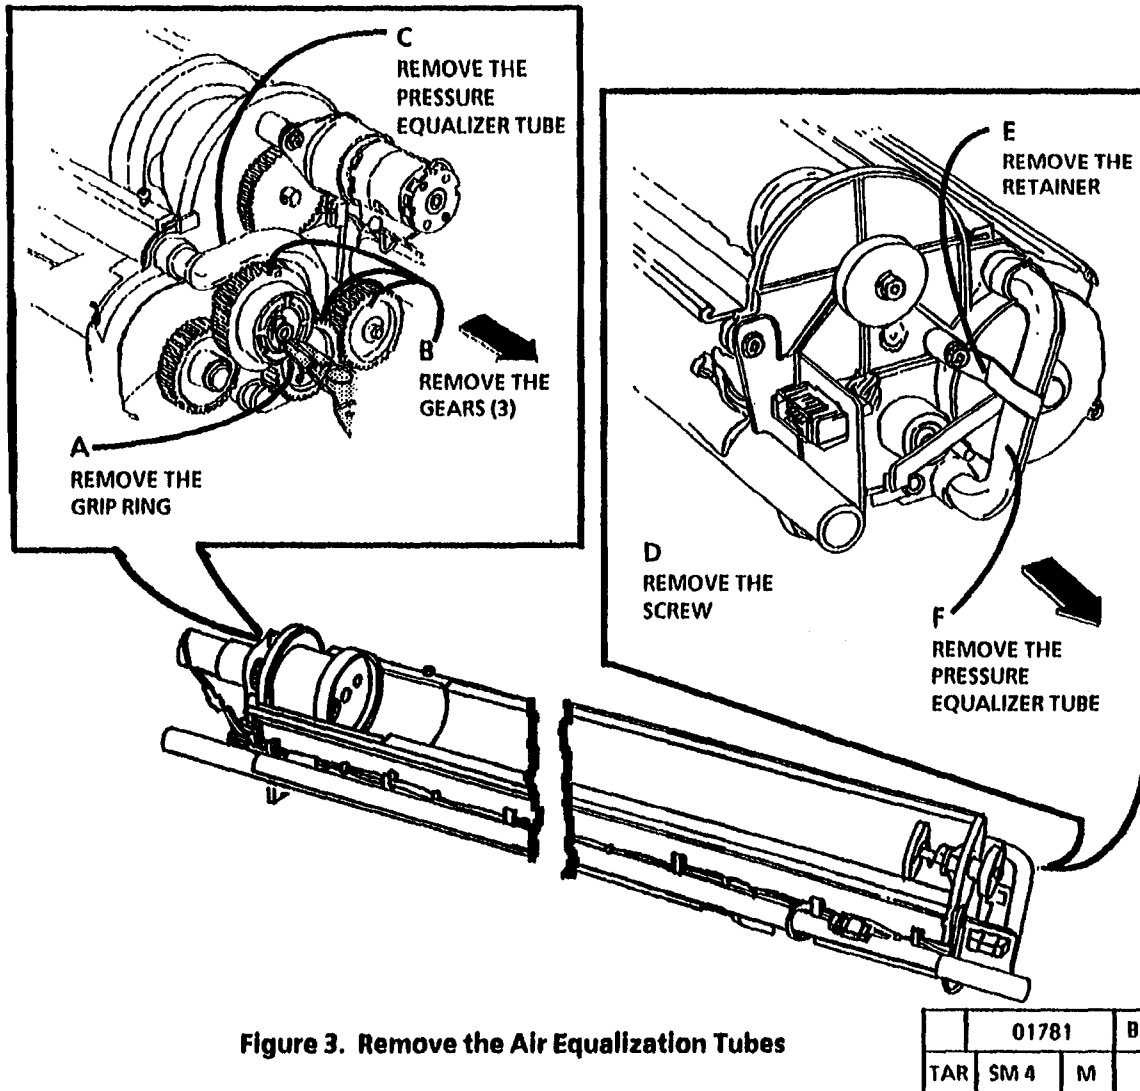

Figure 3. Remove the Air Equalization Tubes
6. (Figure 3): Remove the Pressure Equalizer Tubes.